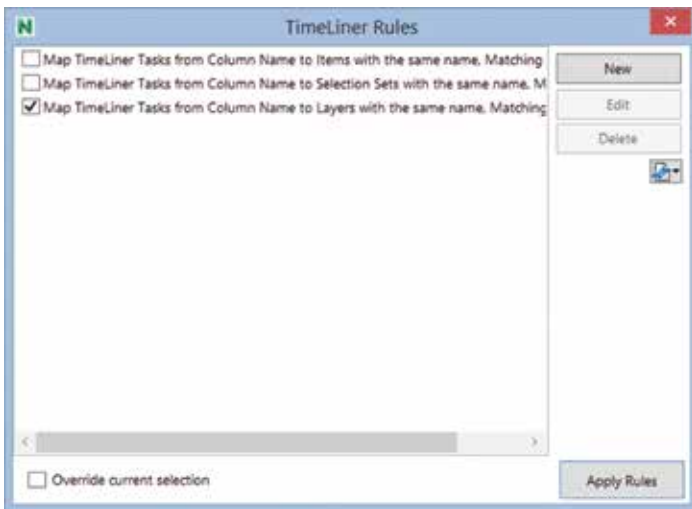

Figure 8: TimeLiner Rules dialog box
2. In the TimeLiner Rules dialog box, select only the last rule Map TimeLiner Tasks from Column Name to Layers with the same name, Matching case and click Apply Rules, as shown in Figure 8.